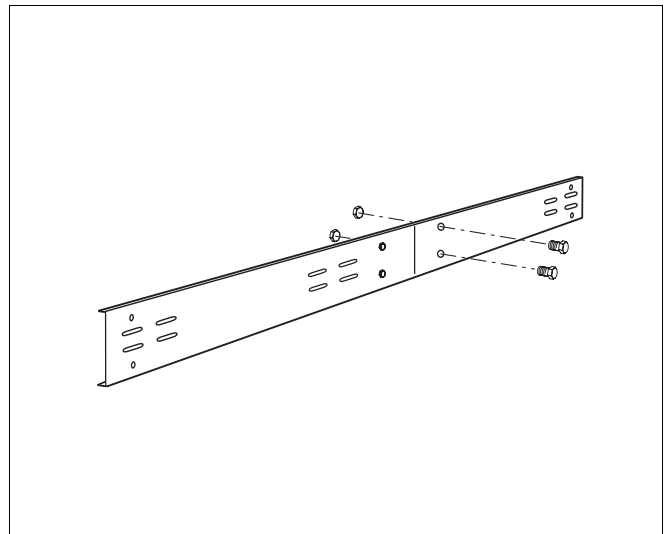

Fig. 11 Longitudinal (L-)bracket
- The horizontal brackets (L-brackets) comprise of two components, which must be pre-assembled. Join both bracket components with two bolts and two nuts (Fig. 11).